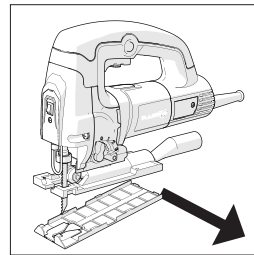

Fig 6
- Unclip the plastic footplate shoe and store safely for future installation. **(Fig. 6)**